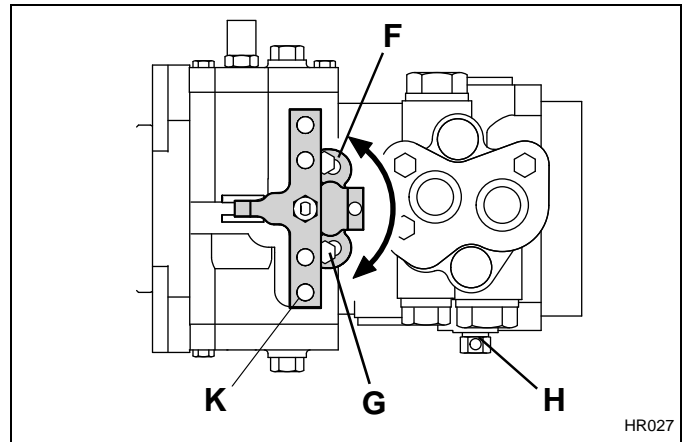

Figure 4H
1. Make sure return arm (**K-Figure 4H**) on pump is adjusted to neutral, **Section 4.7**.